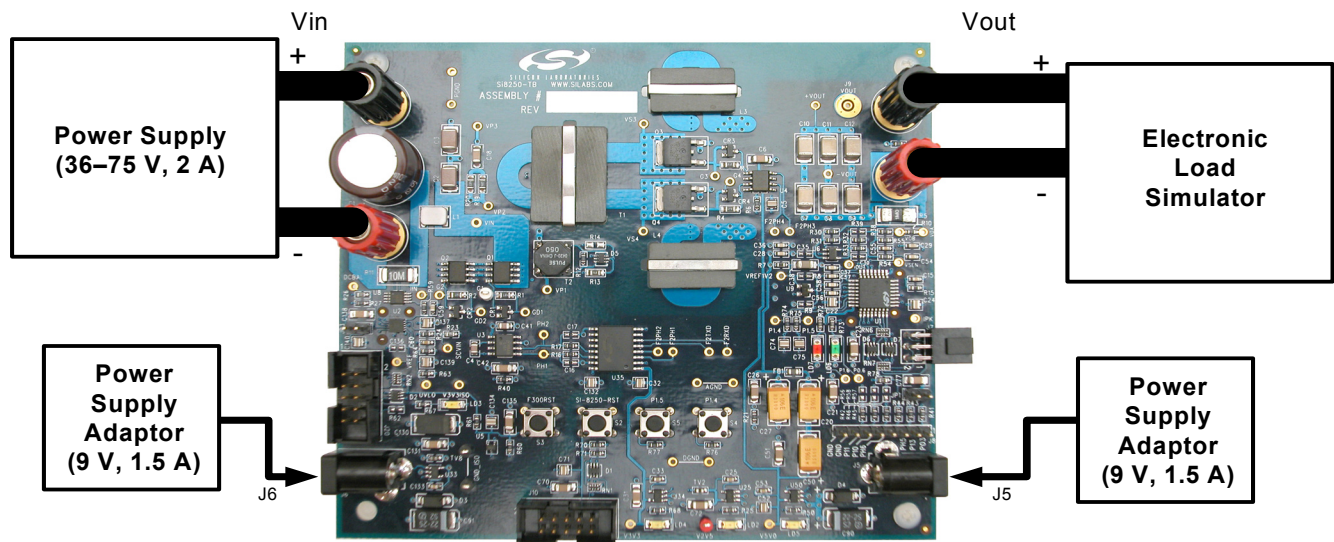

Figure 2. Board Power Configuration
1. Connect the two 9 V, 1.5 A universal power supplies (supplied with the kit) to J5 and J6 as shown in Figure 2. This supply provides bias for the Si8250 and driver ICs.
3. Connect an electronic load simulator or other load to the V_{OUT} terminals as shown in Figure 2.
10. At this point, power can be reapplied to the drivetrain on the Si8250 Target Board. Connect a third external supply (not provided in kit) to the V_{IN} terminals as shown in Figure 2. This supply needs to provide a voltage of between 36–75 V with at least 2 A of current.
11. Connect an electronic load simulator to the V_{OUT} terminals as shown in Figure 2.